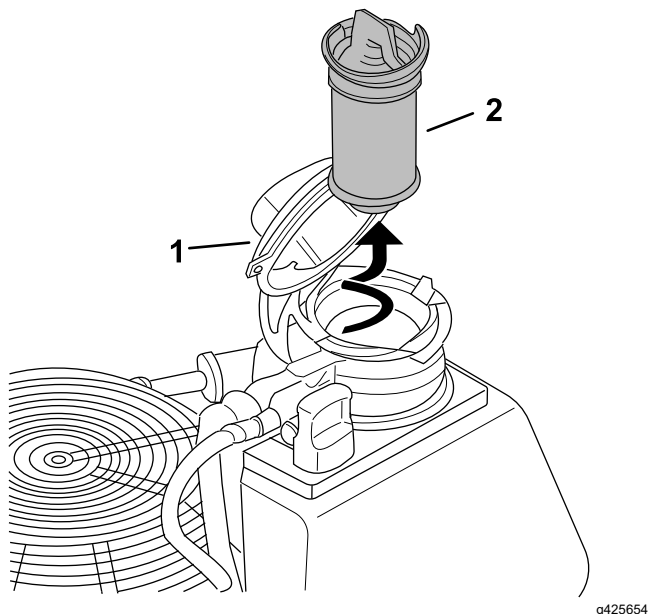

Figure 41
- Remove the engine-oil filter (Figure 41).